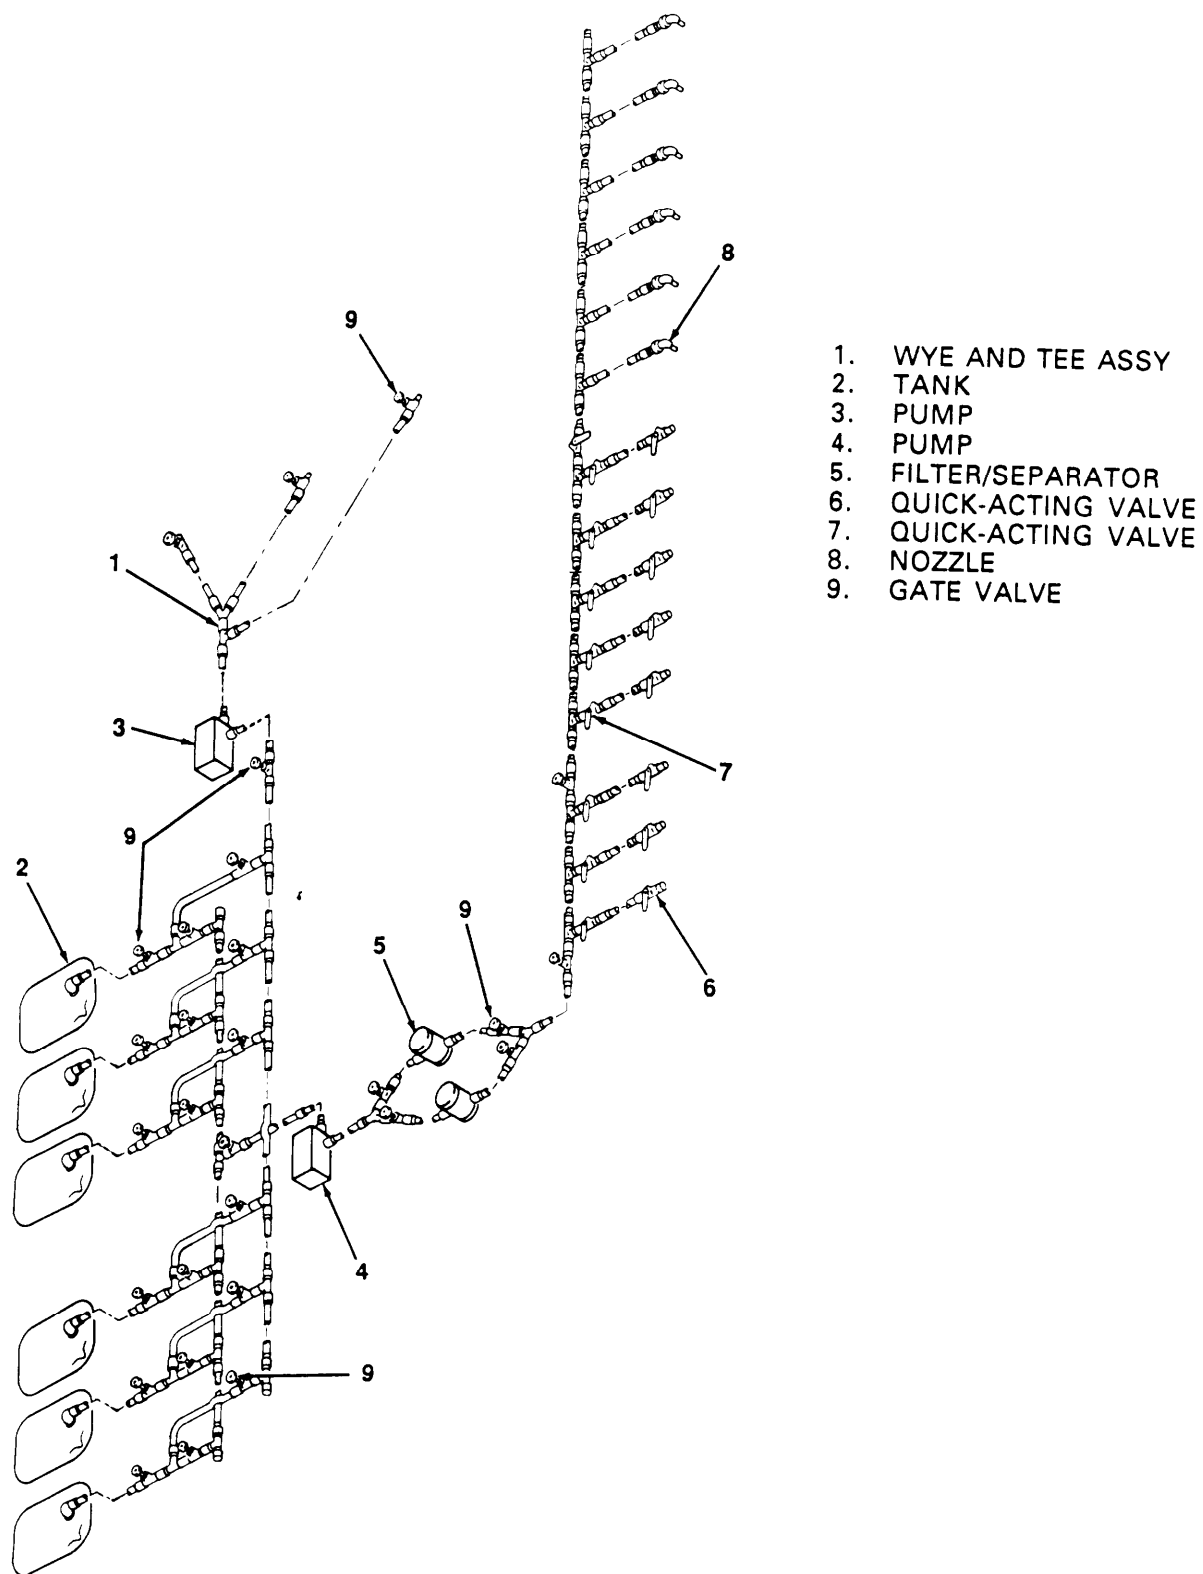

Figure 1-11. Fuel System Flow Diagram.
1-11. Operation (figure 1-11). Fuel enters fuel system through the wye and tee assembly (1). It is then moved into the six 10,000 gallon collapsible fabric tanks (2) by the first of two 350 gpm centrifugal pumps (3). It may also be moved by the fuel transporter or pipeline pumps. A second 350 gpm pump (4) moves the fuel from the collapsible tank through the filter/separator (5) to the quick-acting valves (6) and (7) and the dispensing nozzles (8). The gate valves (9) are used as shutoff valves to control the distribution of fuel through the system.